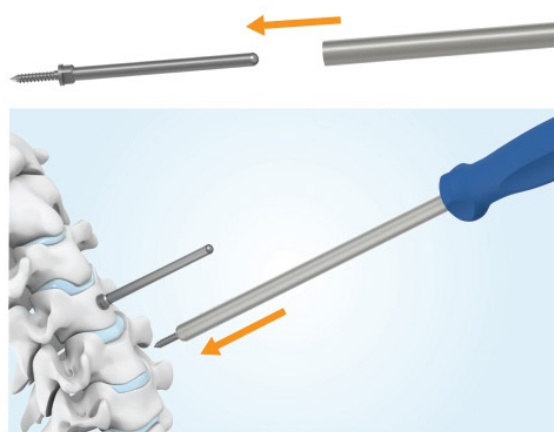
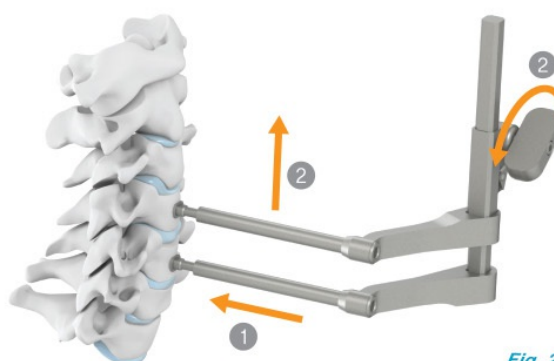

Fig. 1
Fig. 2
Insert the RETRACTOR FIXATION PIN in the vertebrae above and below the disc to be removed with the TEMPORARY FIXATION PIN DRIVER (Fig. 1). Insert the sleeves of the RETRACTOR on the RETRACTOR FIXATION PIN till fully seated ①. Unscrew the RETRACTOR wheel to open the intervertebral space to the desired height ② (Fig. 2). Care should be taken in order to avoid over distraction.